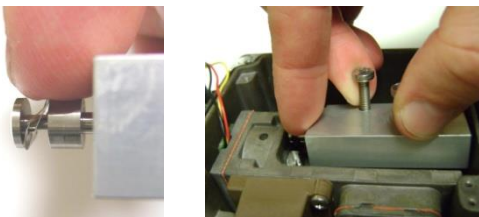

Figure 52: Inserting the Double Acting Block Assembly
- 11 Disconnect the pressure sensor board cable, the hall sensor cable, the piezo cable and the feedback cable. (Use a small flat screwdriver to pry the locking features and carefully separate the connector from the main board. Be careful not to pull the cable, as this may cause damage to the cable.) See Figure 52.